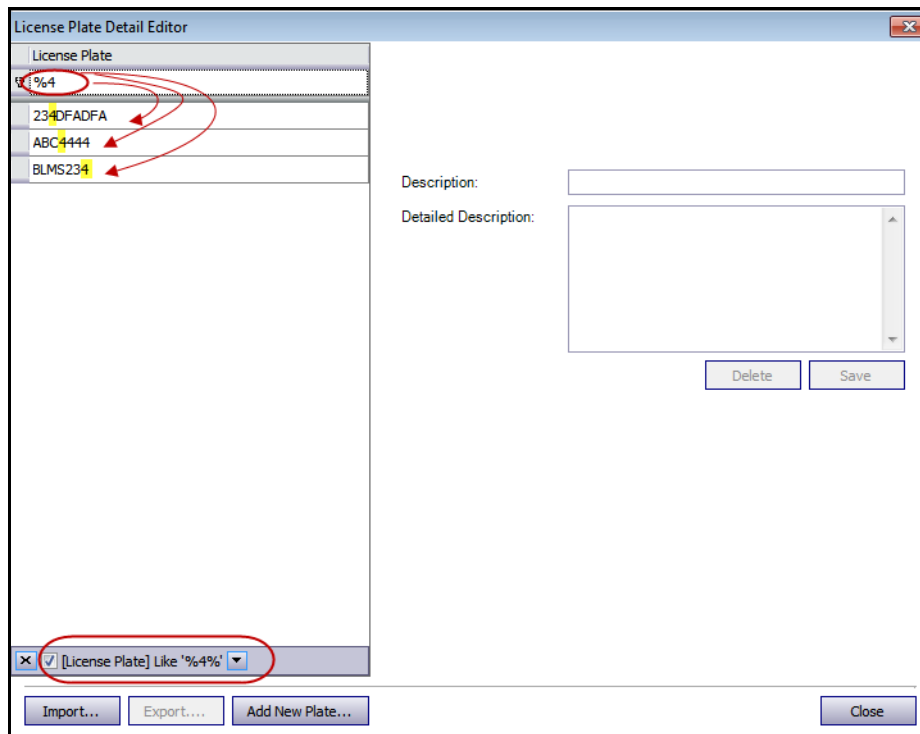

Figure 21. Search for license using % wildcard character
- b. If you do not know the first letter or number, use the % (per cent) sign as a wildcard character to complete the search (Figure 21 on page 35).